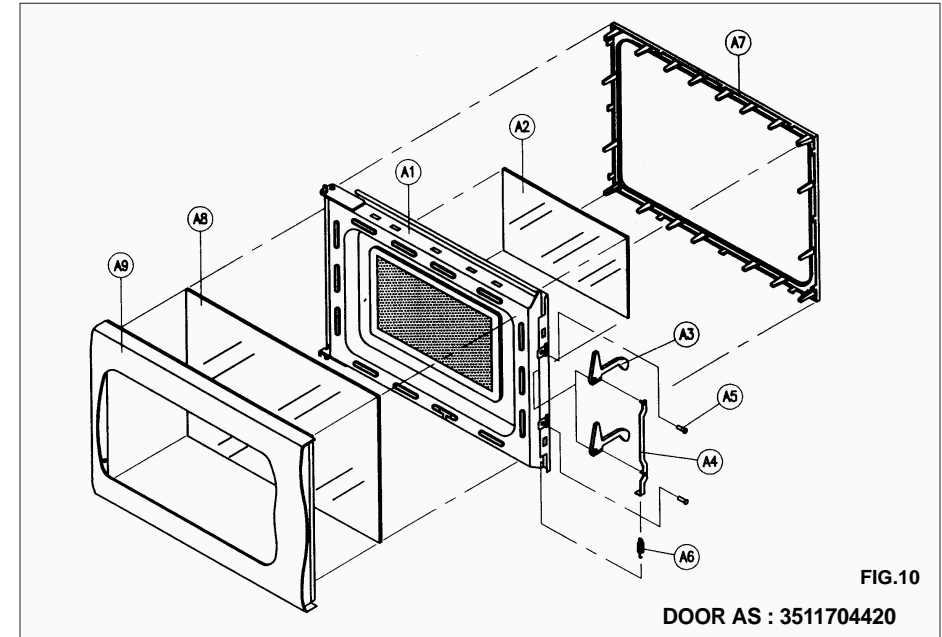

FIG. 10
8. To remove door parts (Refer to Fig. 10)